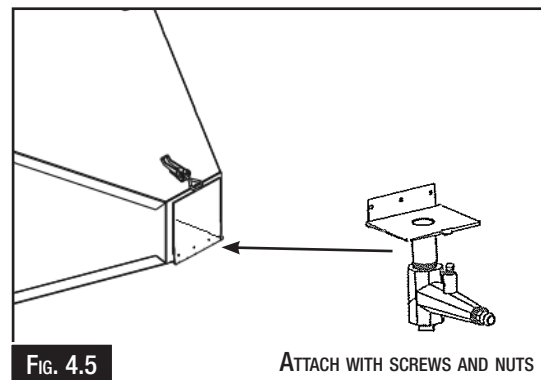

FIG. 4.5
4. Attach the hopper lower hatch/abrasive metering valve to the bottom of the hopper using the screws and nuts provided. Close the hatch and lock the latch. (Fig. 4.5)